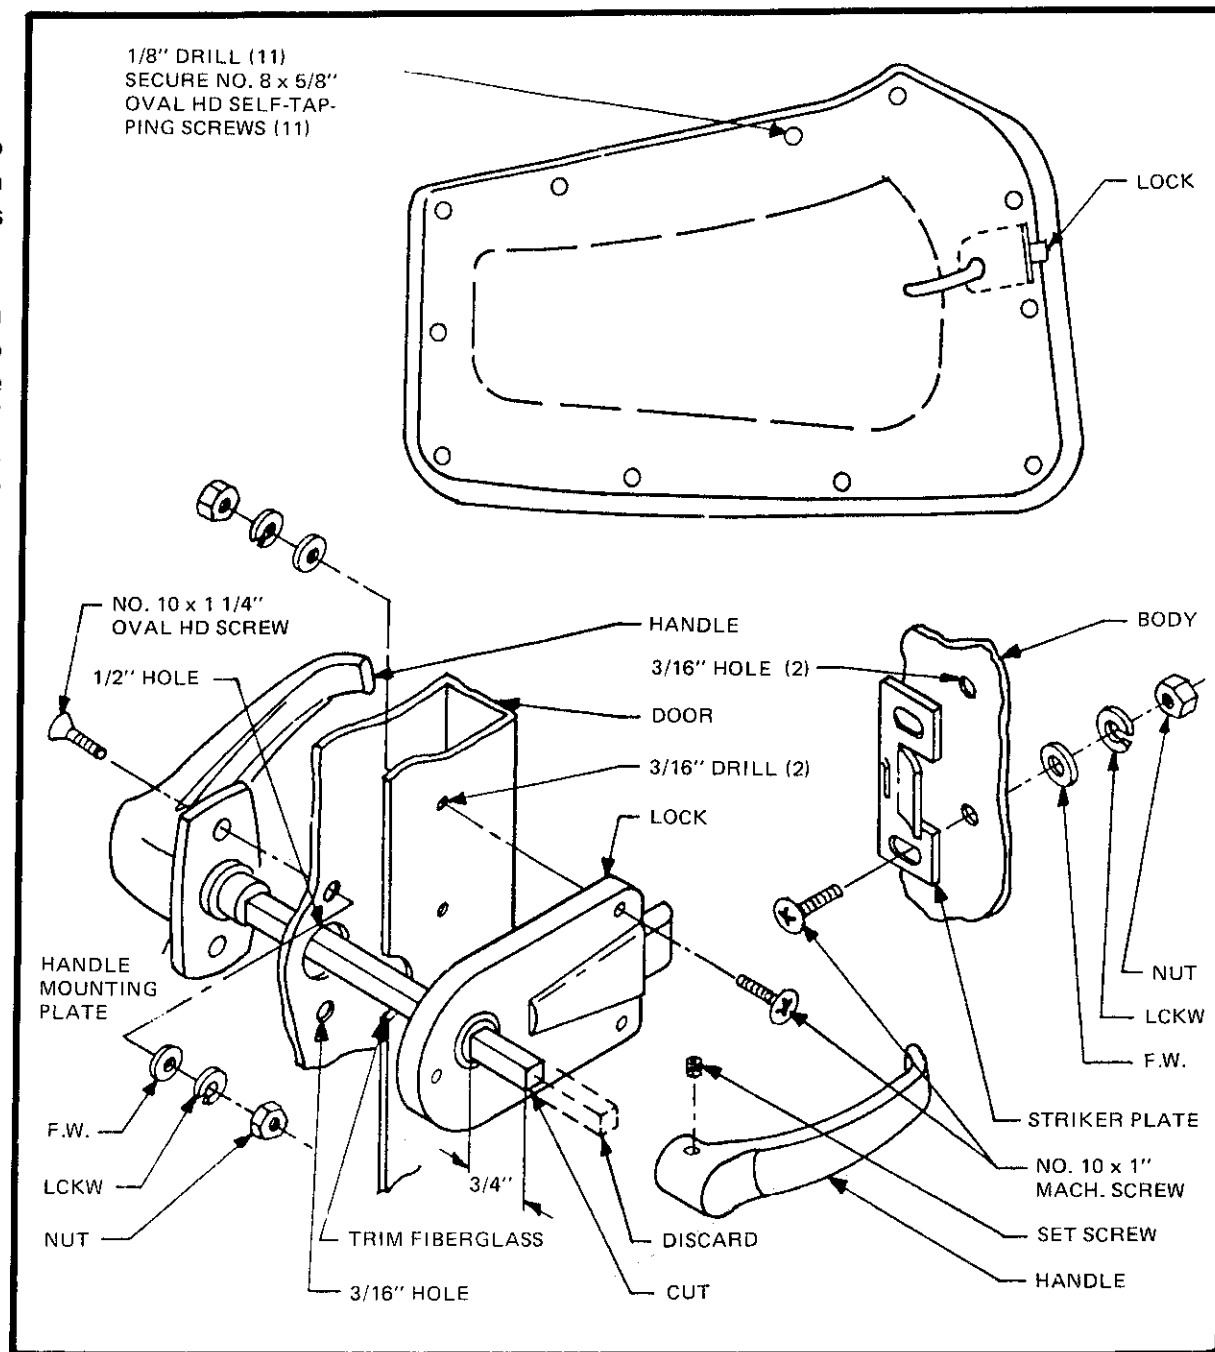

Figure 68
- ☐ Refer to Figure 68 . Temporarily hold upholstery in place and mark location of lock cut out. With door closed, hold lock in position with spring latch contacting body. Mark holes and drill ($3/16''$ drill bit). It may be necessary